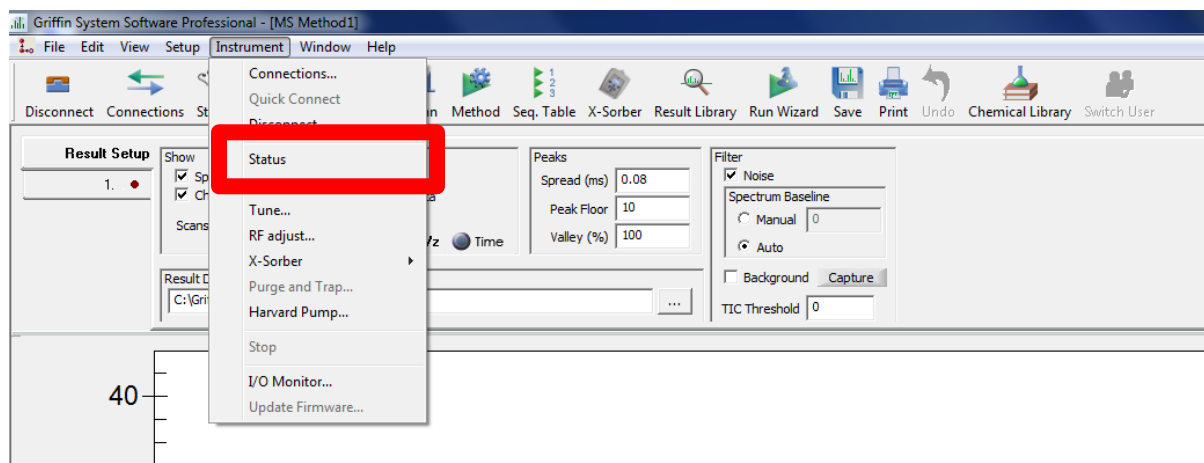

Figure 1.9 – Accessing instrument status
1. If the instrument is powered-up, the polarity can be changed. To change the polarity, select “Status” under the “Instrument” drop-down menu at the top of the screen (Figure 1.9).